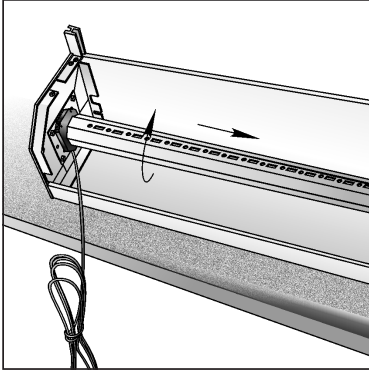

Fig. 21
- h) Install the end cap assembly with the drive in the shutter box (Fig. 21);